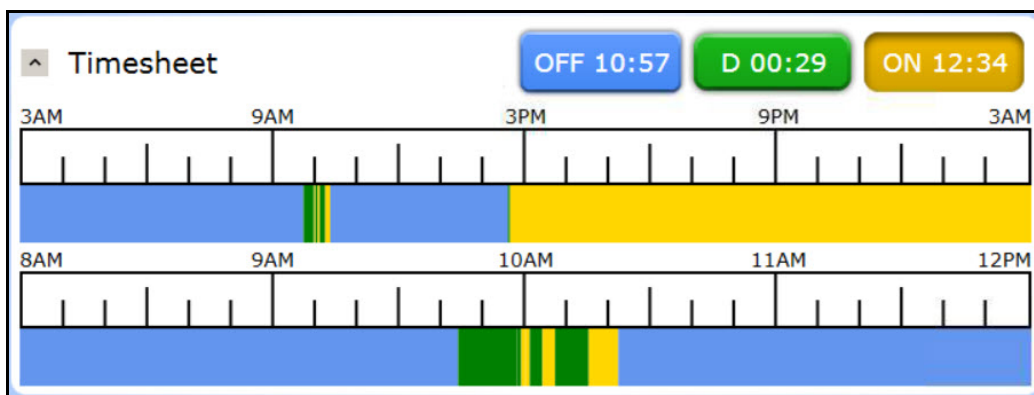

Figure 3.14 — Timesheet Section Magnified
2. Tap the timesheet near the section that you want to edit. A zoomed-in version of the timesheet appears directly below it, as shown in Figure 3.14.